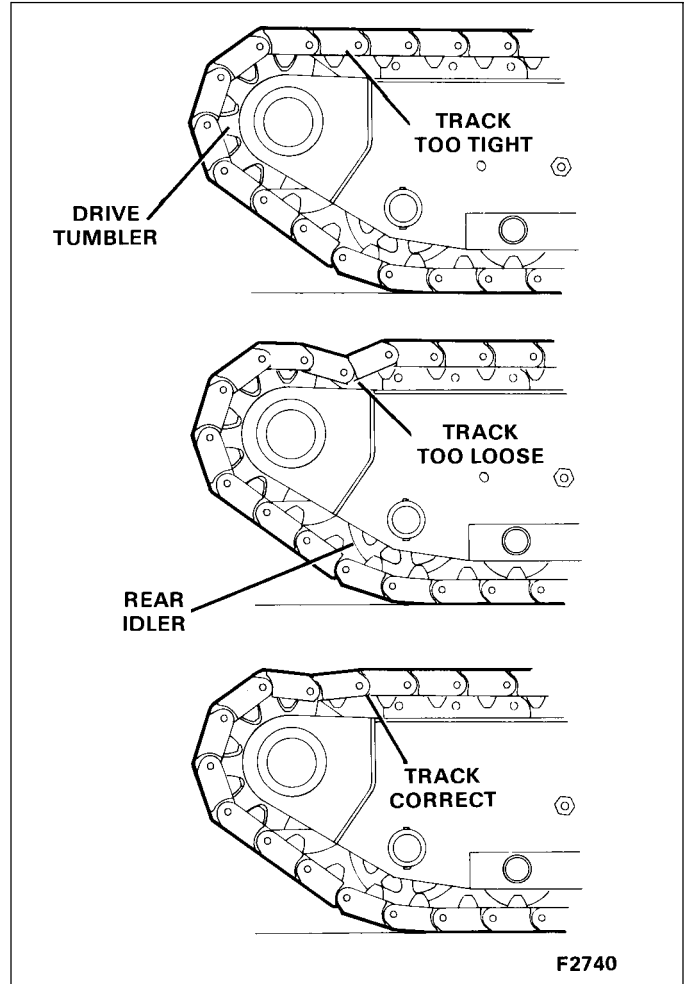

Figure 7-28. Crawler Track Tension
- If the crawler pads come straight off the drive tumbler, check the slope of the crawler belt on the top center of the crawler frame rail. If it is too tight it will stretch across the slope on the side frame. The crawler belt should have a gentle slope as it crosses the side frame rail slope (see Figure 7-28).